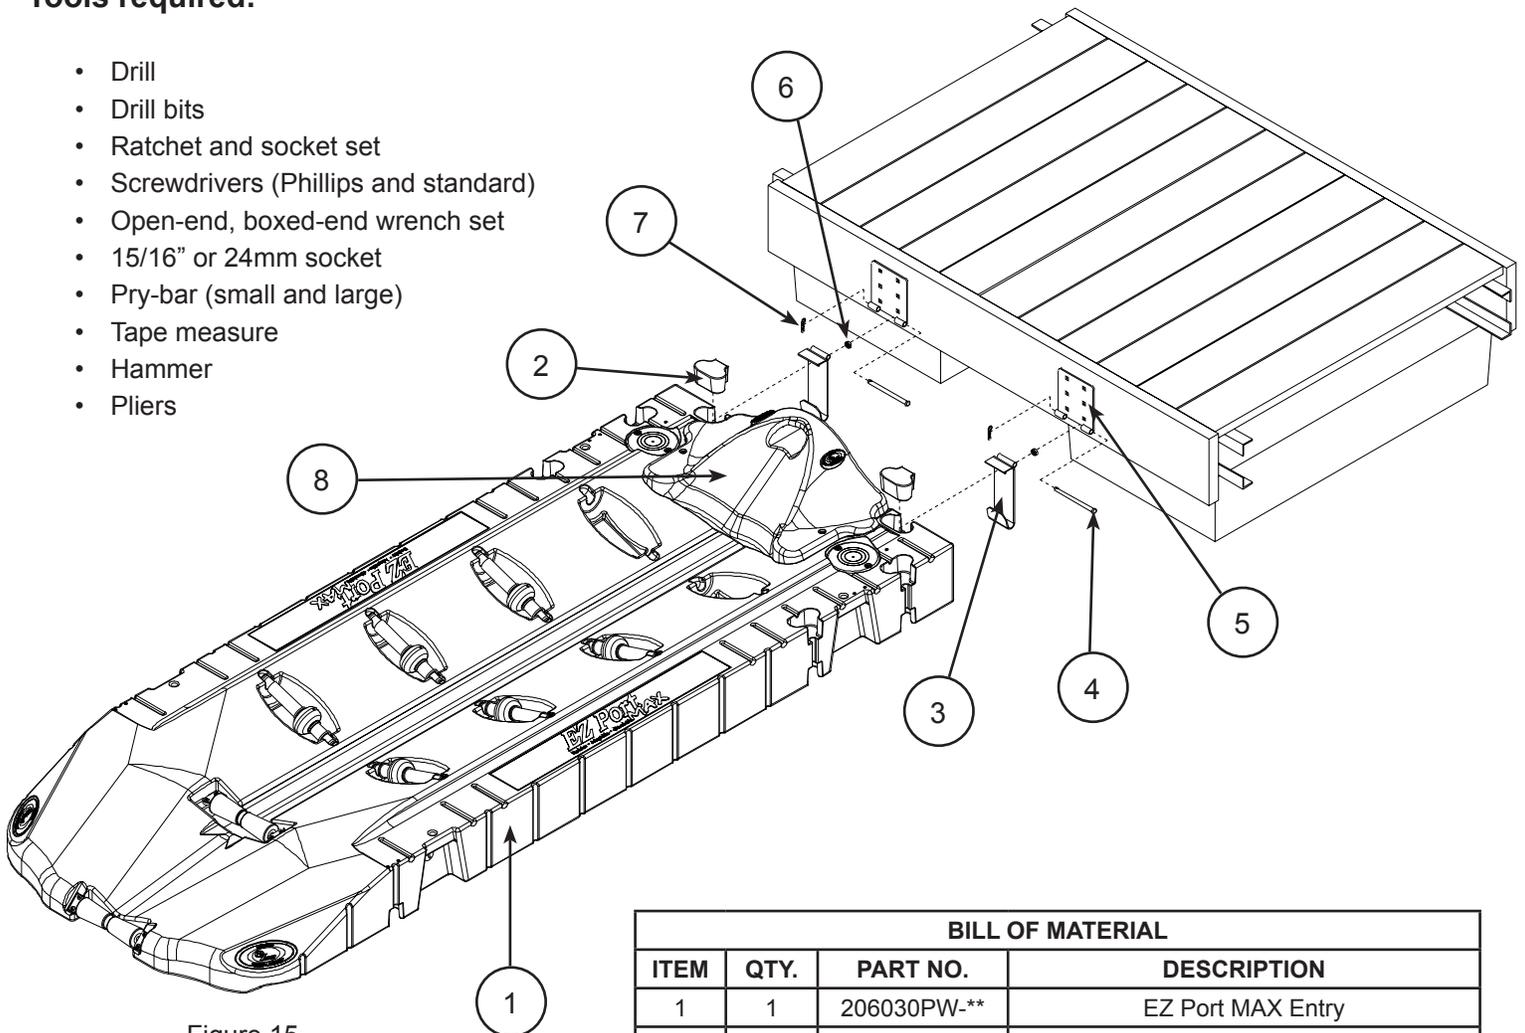
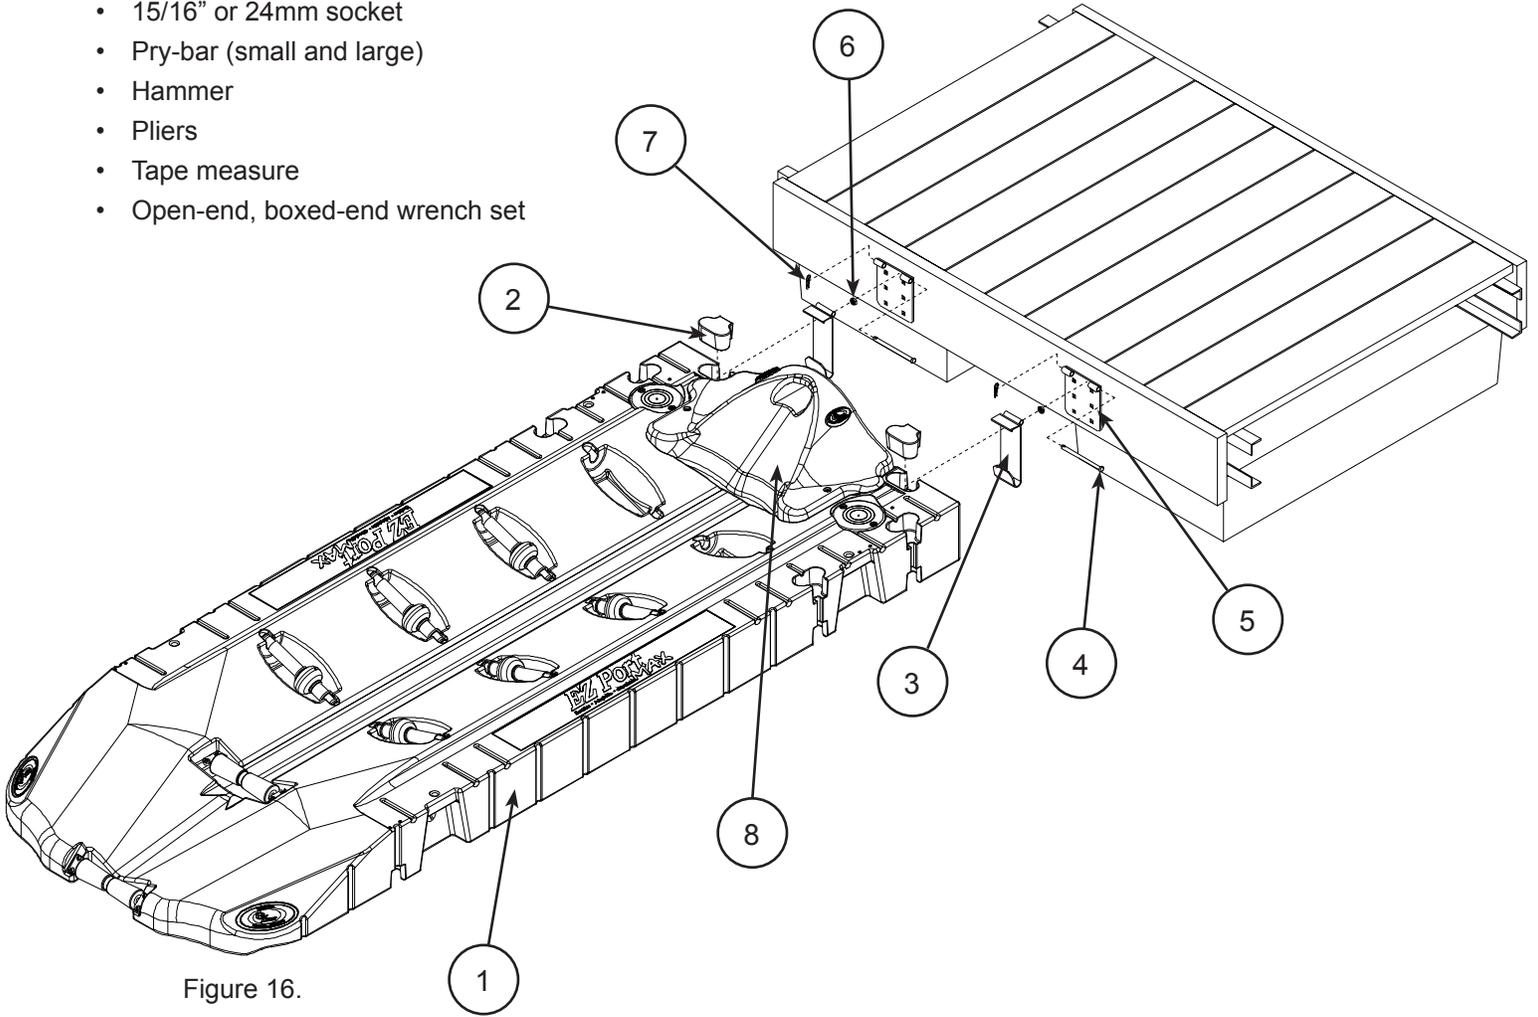
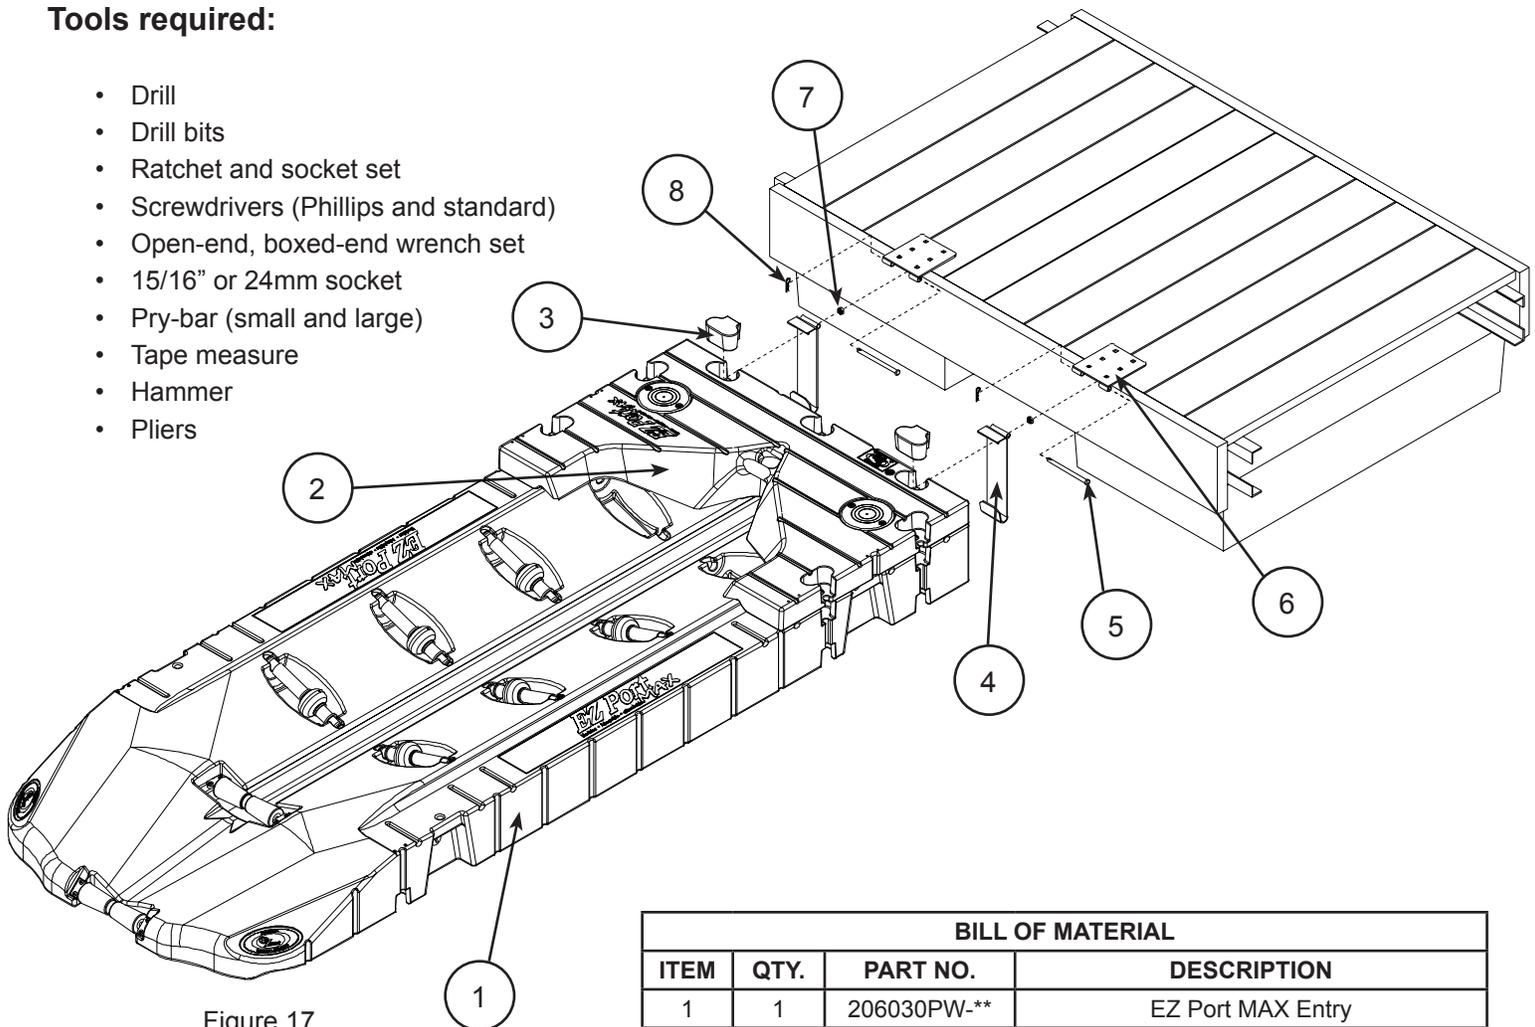

Figure 15.
Figure 16.
Figure 17.
2. Determine the best position for the hinge adapter plate. The plate can be above (Figure 15), perpendicular (Figure 17), or directly in front of the hinge adapter bracket, (Figure 16).
The hinge dock adapter plate, (Item 5), may be installed with the hinge point on the top as shown, (Figure 16). All other installation is the same as on previous page.
The 100750 or 100750SS hinge kit is required when anchoring a EZ Port MAX Entry (206030PW-\*\*) with Full Bow Section (206025BS-\*\*), (Figure 17) or the EZ Port MAX Integrated Bow (206032PW-\*\*). The full bow section must be attached to the EZ Port MAX with the screws provided prior to the installation, (See Page 8 Figure 2 for bow section installation instructions).
2. Determine the best position for the hinge adapter plate. The plate can be above (Figure 15), perpendicular (Figure 16), or directly in front of the hinge adapter bracket, (Figure 17).